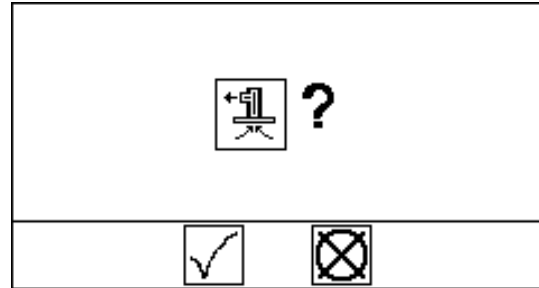

FIG. 21: Prime Confirmation
5. Press the Pump Prime key . The display prompts the operator to confirm. See FIG. 21. Select  to begin prime.